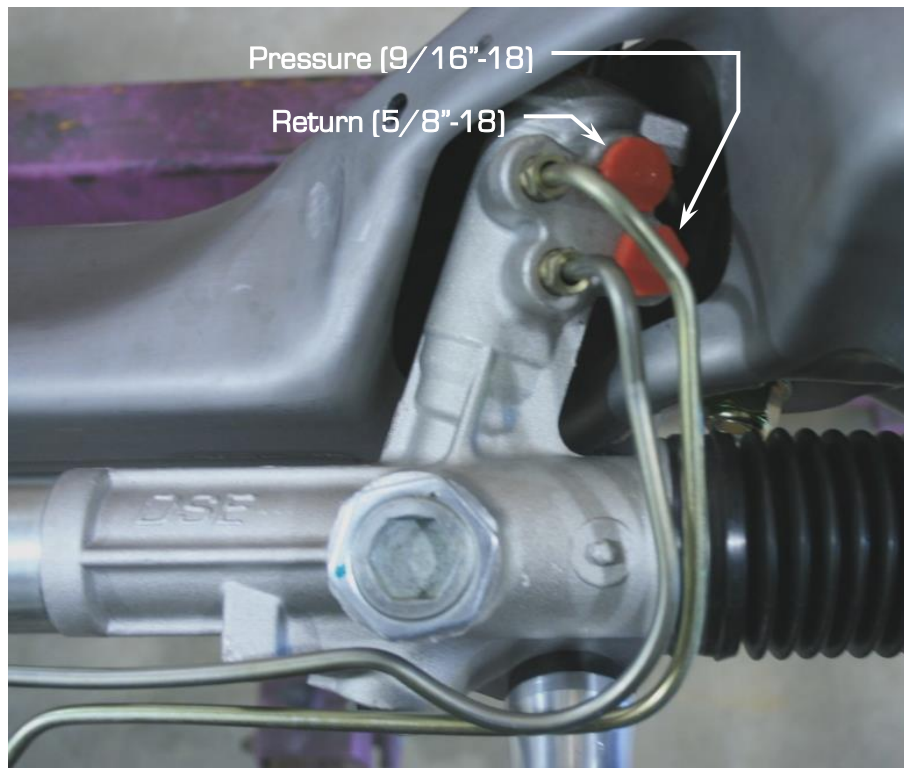

Figure 1 – Pressure and Return Port Locations
4. After the rack is installed into the vehicle, attach the power steering hoses to the steering gear. Follow Figure 1 on the next page for the location of the pressure and return ports.